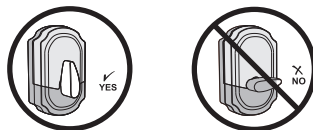

Fig. 8
**Step 2.** If needed, have someone hold the door itself or hold the outside section flat against the front of the door. Then take out the inside section, and turn the thumb vertically before installing (Fig. 8).